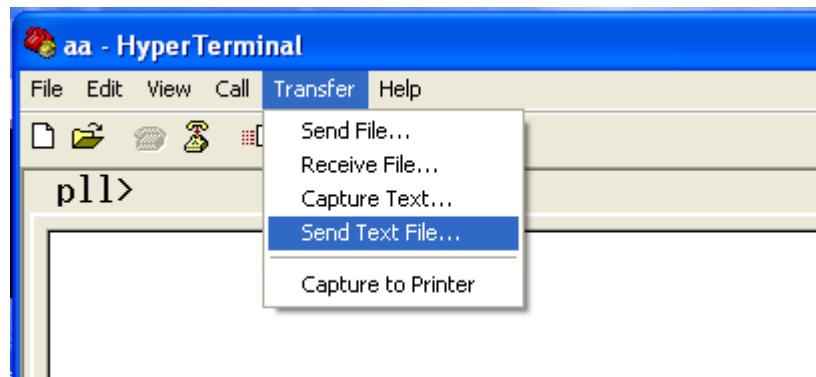

Figure 4. Hyperterm text file transfer selection
To write the file to memory, first connect the PC COM port (9600, N81) and apply power to the Orion board. After the power on message is observed, type “EM” and then “Enter” (CR). Type “Y” at the “Erase all, press Y to accept...” prompt. Next, issue the “QC” command to clear the error status. To effectively utilize a text upload, the terminal must be configured to produce a delay after each line has been sent. At least 50 ms is recommended. Once the line-delay is configured, perform a text file upload (for Hyperterm, see Figure 4).